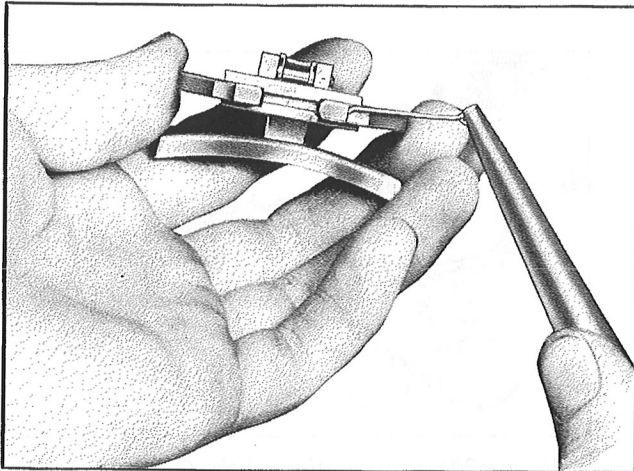

Figure 199—Removal of the Carriage Stop Pin
*Step 5.*—Remove the carriage stop pin from the ways plate and slide the carriage off the ways, as shown in Figure 199.